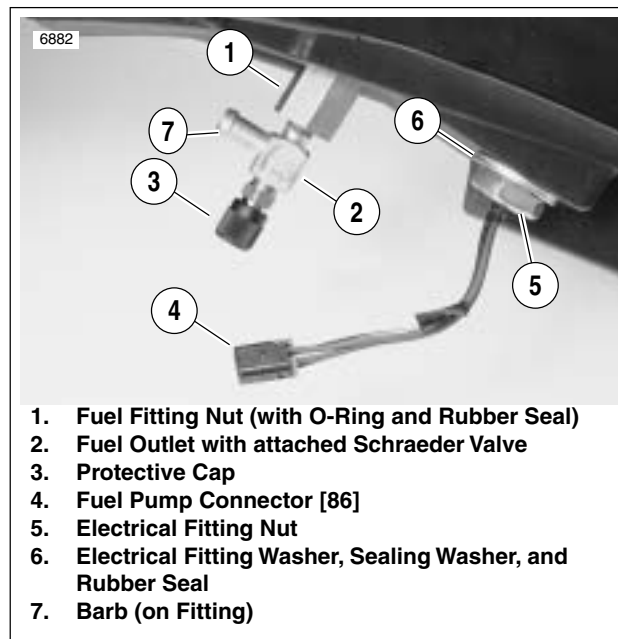

Figure 4-95. Fuel Pump Within Tank
4. See Figure 4-95. Remove fuel fitting nut (1).
5. Remove electrical fitting nut (5), washer, sealing washer and rubber seal (6).